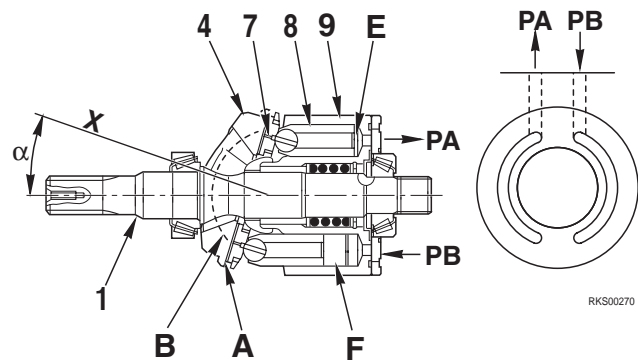

Fig. 1
In other words, when cylinder block (9) rotates and the volume of chamber **F** becomes smaller, the oil is discharged during that stroke. On the other hand, the volume of chamber **E** becomes larger, and as the volume becomes bigger, the oil is sucked in (Fig. 1).